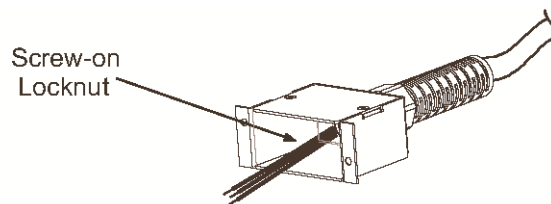

Fig.3-2: Stripped Wires installed in Strain Relief
- c. Slide the helix-shaped body onto the AC cable. Insert the stripped wires through the strain relief base until the outer cable jacket is flush with the edge of the base. Tighten 16-18 Lb-inch (18 - 20Nm) the body to the base while holding the cable in place. Now the cable is securely fastened inside the strain relief. Refer to Fig. 3-2.